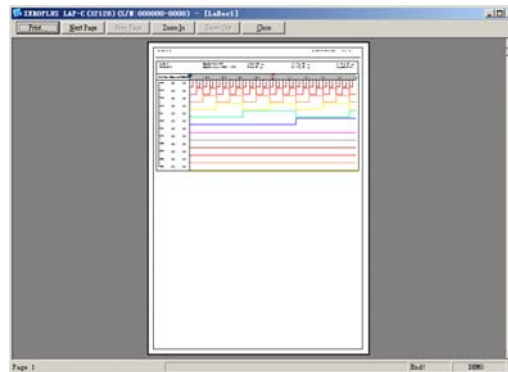

Fig 3-17: Click to show a **Preview** of the **Print**.
- ← **Print Preview** - Show three options: Bus/Signal & Trigger & Filter, Position Display Area and Waveform Display (See Fig. 3-17).